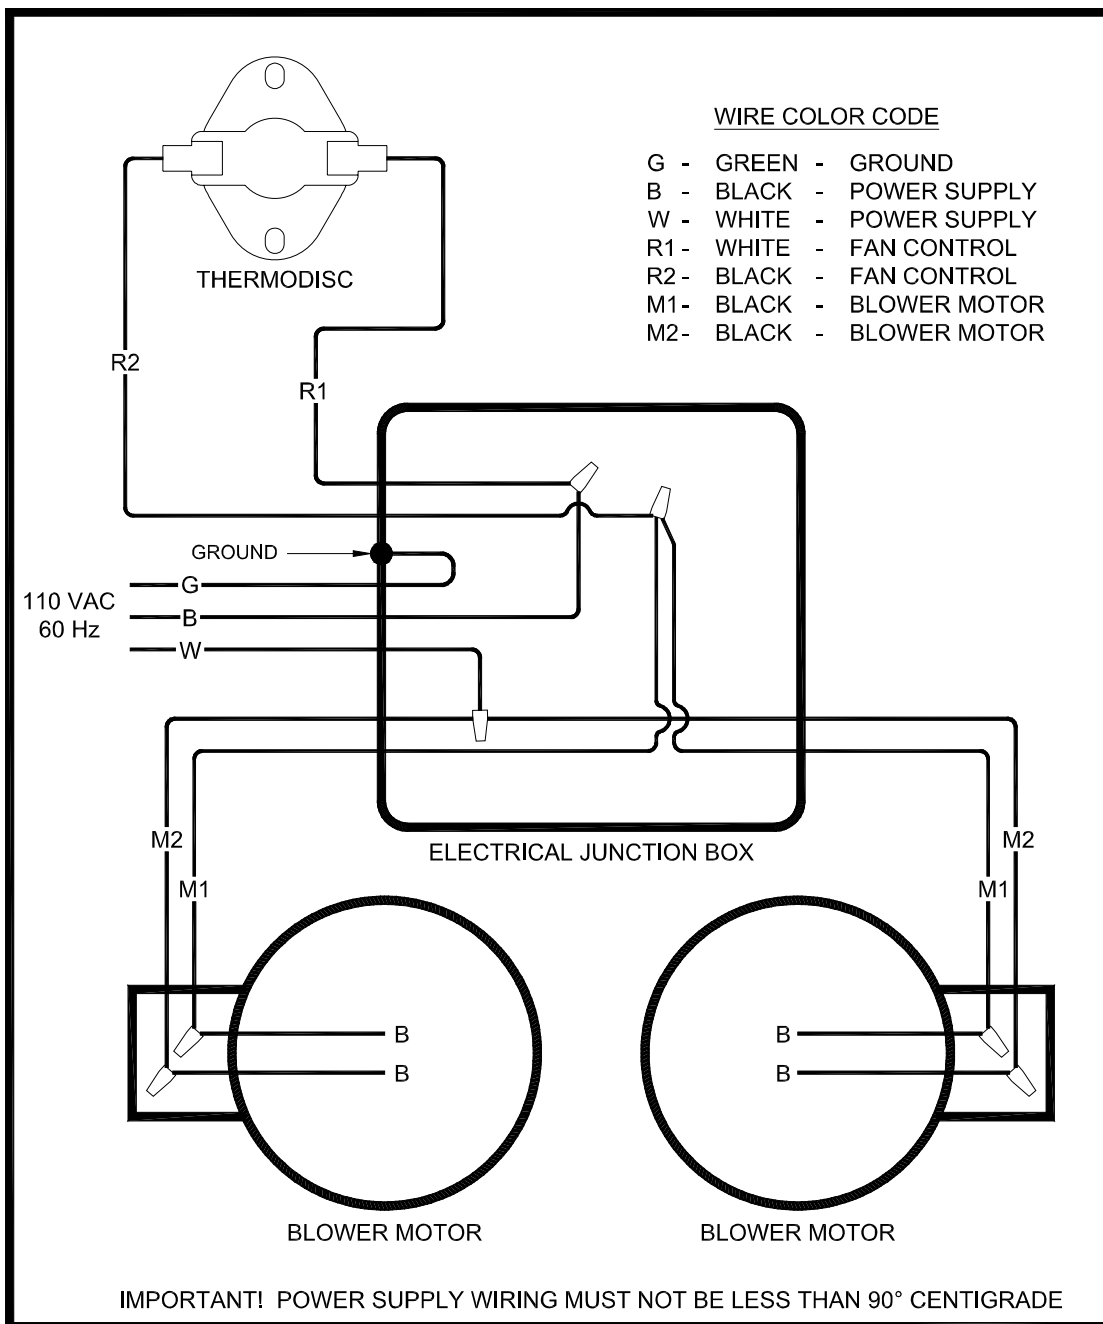

Fig. 11
7. Wire right side blower first (See wiring diagram, Fig. 11) and replace cover on junction box on blower.
**f)** Connect electrical supply in the electrical junction box that is mounted on the back of the Furnace. See Wiring Diagram (Fig. 11). Remove the cover from electrical junction box and connect power supply wires to wires designated, using wire nuts. The power cord supplied may be used for installation, if permitted by local codes and regulations. If the power cord supplied cannot be used, the power supply wiring must be 90 degrees centigrade in a metal cable and should be completed by a qualified installer complying with NFPA Standard No. 70 and local codes.